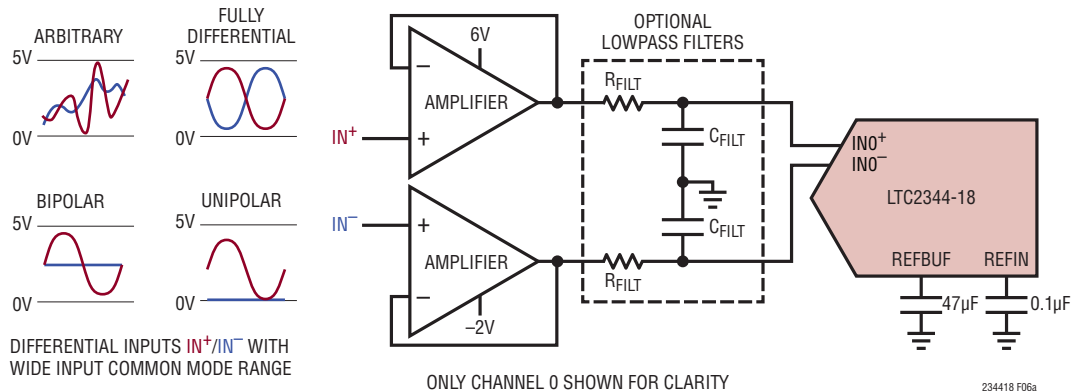
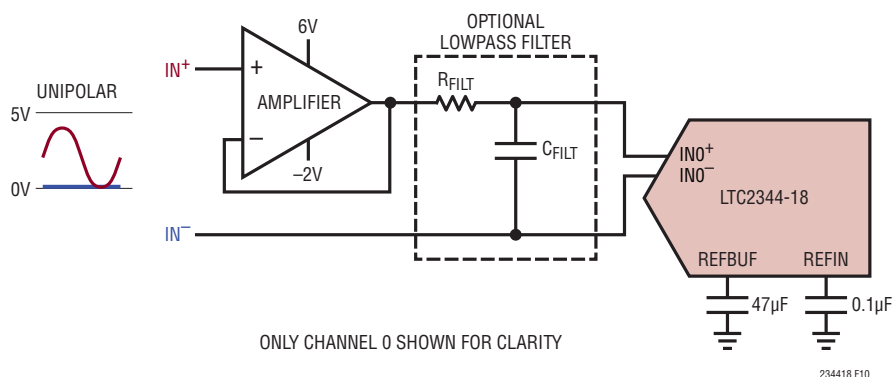

Figure 6a. Buffering Arbitrary, Fully Differential, Bipolar, and Unipolar Signals.
Figure 10. Buffering Single-Ended Input Signals. See Table 2 For Recommended Amplifier and Filter Combinations
design. In many applications, connecting a channel's  $IN^+$  and  $IN^-$  pins directly to the existing signal chain circuitry will not allow the channel's sampling network to settle to 18-bit resolution within the ADC acquisition time ( $t_{ACQ}$ ). In these cases, it is recommended that two unity-gain buffers be inserted between the signal source and the ADC input pins, as shown in Figure 6a. Table 2 lists several amplifier and lowpass filter combinations recommended for use in this circuit. The LT6237 combines fast settling, high linearity, and low offset with  $1.1\text{nV}/\sqrt{\text{Hz}}$  input-referred noise density, enabling it to achieve the full ADC data sheet SNR and THD specifications, as shown in the FFT plots in Figures 6b to 6e. In applications where slightly degraded SNR performance is acceptable, it is possible to drive the LTC2344-18 using the lower-power LT6234. The LT6234 combines fast settling, good linearity, and low offset with  $1.9\text{nV}/\sqrt{\text{Hz}}$  input-referred noise density, enabling it to drive the LTC2344-18 with 1.9dB SNR loss compared with the LT6237 when a  $24.9\Omega$ ,  $1\text{nF}$  filter is employed. As shown in Table 2, the LT6237 may be used without a lowpass filter at a loss of  $\leq 1\text{dB}$  SNR due to increased wideband noise.
**Table 2. Recommended Amplifier and Filter Combinations for the Buffer Circuits in Figures 6a and 9. AC Performance Measured Using Circuit in Figure 6a,  $\pm 4.096\text{V}$  Range for Fully Differential Input Drive,  $\pm 2.048\text{V}$  Range for Bipolar Input Drive**
Figure 6b. Two-Tone Test.  $IN^+ = -7$ dBFS 2kHz Sine,  $IN^- = -7$ dBFS 3.1kHz Sine, 32k Point FFT,  $f_{SAMPL} = 400$ kps. Circuit Shown in Figure 6a with LT6237 Amplifiers,  $R_{FILT} = 24.9\Omega$ ,  $C_{FILT} = 1nF$
Figure 6c.  $IN^+/IN^- = -1$ dBFS 2kHz Fully Differential Sine, Common Mode = 2.5V, 32k Point FFT,  $f_{SAMPL} = 400$ kps. Circuit Shown in Figure 6a with LT6237 Amplifiers,  $R_{FILT} = 24.9\Omega$ ,  $C_{FILT} = 1nF$
Figure 6d.  $IN^+ = -1$ dBFS 2kHz Bipolar Sine,  $IN^- = 2.5V$ , 32k Point FFT,  $f_{SAMPL} = 400$ kps. Circuit Shown in Figure 6a with LT6237 Amplifiers,  $R_{FILT} = 24.9\Omega$ ,  $C_{FILT} = 1nF$
Figure 6e.  $IN^+ = -1$ dBFS 2kHz Unipolar Sine,  $IN^- = 0V$ , 32k Point FFT,  $f_{SAMPL} = 400$ kps. Circuit Shown in Figure 6a with LT6237 Amplifiers,  $R_{FILT} = 24.9\Omega$ ,  $C_{FILT} = 1nF$
While the circuit shown in Figure 6a is capable of buffering single-ended input signals, the circuit shown in Figure 10 is preferable when the single-ended signal reference level is inherently low impedance and doesn't require buffering. This circuit eliminates one driver and lowpass filter, reducing part count, power dissipation, and SNR degradation due to driver noise. Using the recommended driver and filter combinations in Table 2, the performance of this circuit with single-ended input signals is on par with the performance of the circuit in Figure 6a.